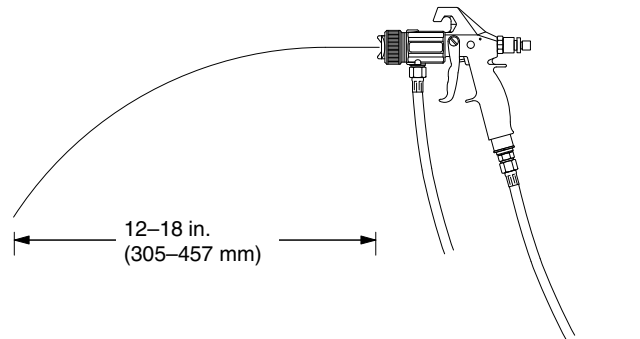

Fig. 6 02969
2. If a remote pressure pot is used, hold the gun parallel to the floor and adjust the fluid pressure to yield a 12 to 18 inch (305 to 457 mm) fluid stream. See Fig. 6.